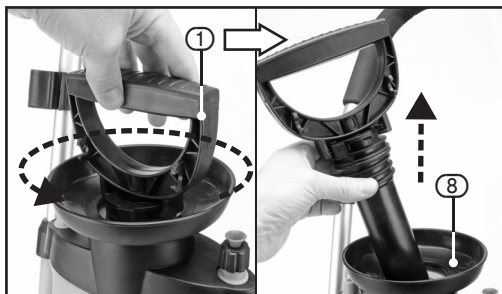

FIG.13
9.1 FILLING THE SPRAY BOTTLE – FIGS. 13 – 15
- Unscrew the pump handle ① anti-clockwise to loosen and remove from the pump handle/assembly from the fill inlet ⑧.